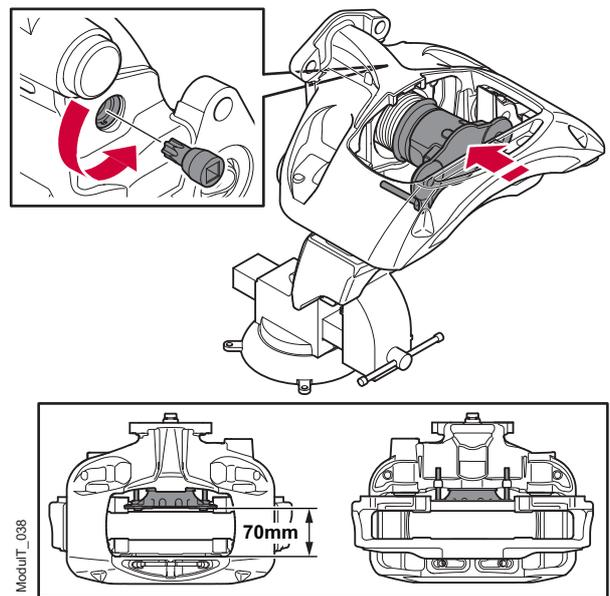

Figure 45. Loading the thrust plate
See figure 45.
10. Continue to retract the thrust plate until the dimension between the thrust plate inner pad face and the calliper outer pad face is 70 mm, as per figure 45.